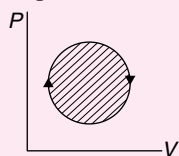

Figure 1
- (A) Figures 1 and 2
- (B) Figures 1 and 3
- (C) Figures 1 and 4